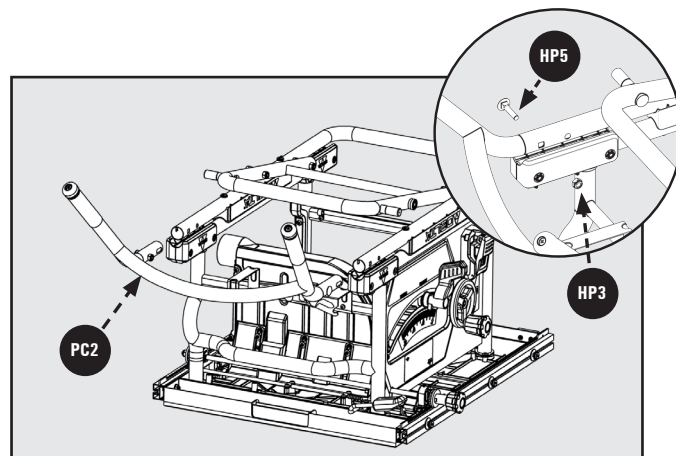

Figure 6
5. With Table saw still in Lower Packing Tray, attach Stand Handle (PC2) to Tubular Base of Saw with (2) M8 x 35mm Carriage Screw (HP5) and (2) M8 Locknut (HP3). Secure using the 13mm Combination Wrench. See Figure 6.